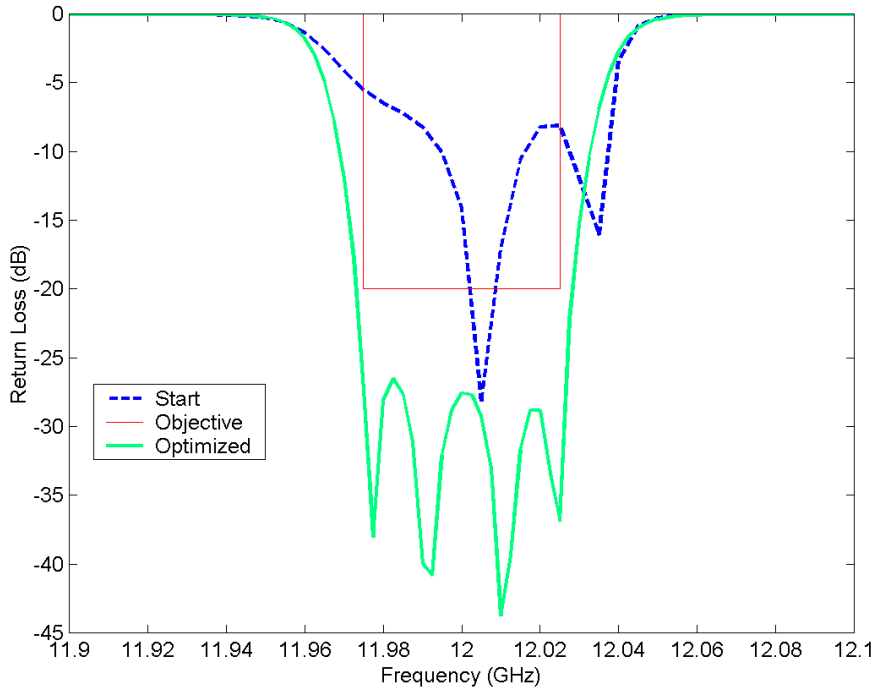

FIGURE 29. Bandpass characteristics of filter before and after optimization
- For instructional purposes, click on *Execute* on the main GUI screen to perform an analysis of the original input file. Use the *View* pulldown to see the performance using the initial parameters. (Under the *View* menu, select *S11*, then *Primary Mode*.) The bandpass should resemble the blue curve in Figure 29, though somewhat more jagged due to the reduced number of frequency steps.
8. Upon completion, examine the results using options in the *View* pulldown. (Under the *View* menu, select *SII*, then *Primary Mode*.) Figure 29 shows a plot of the initial configuration and the optimized configuration.